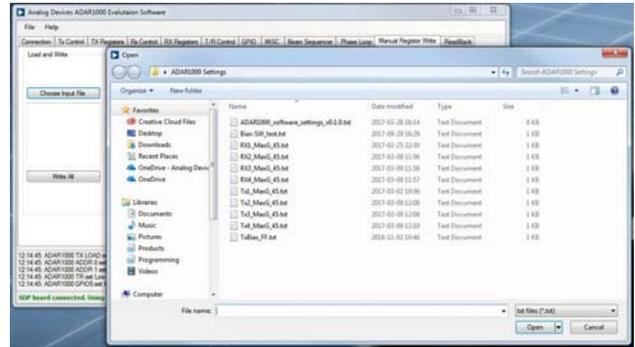

Figure 22. Choose Settings File
3. Navigate to where the settings files are located (see Figure 22).